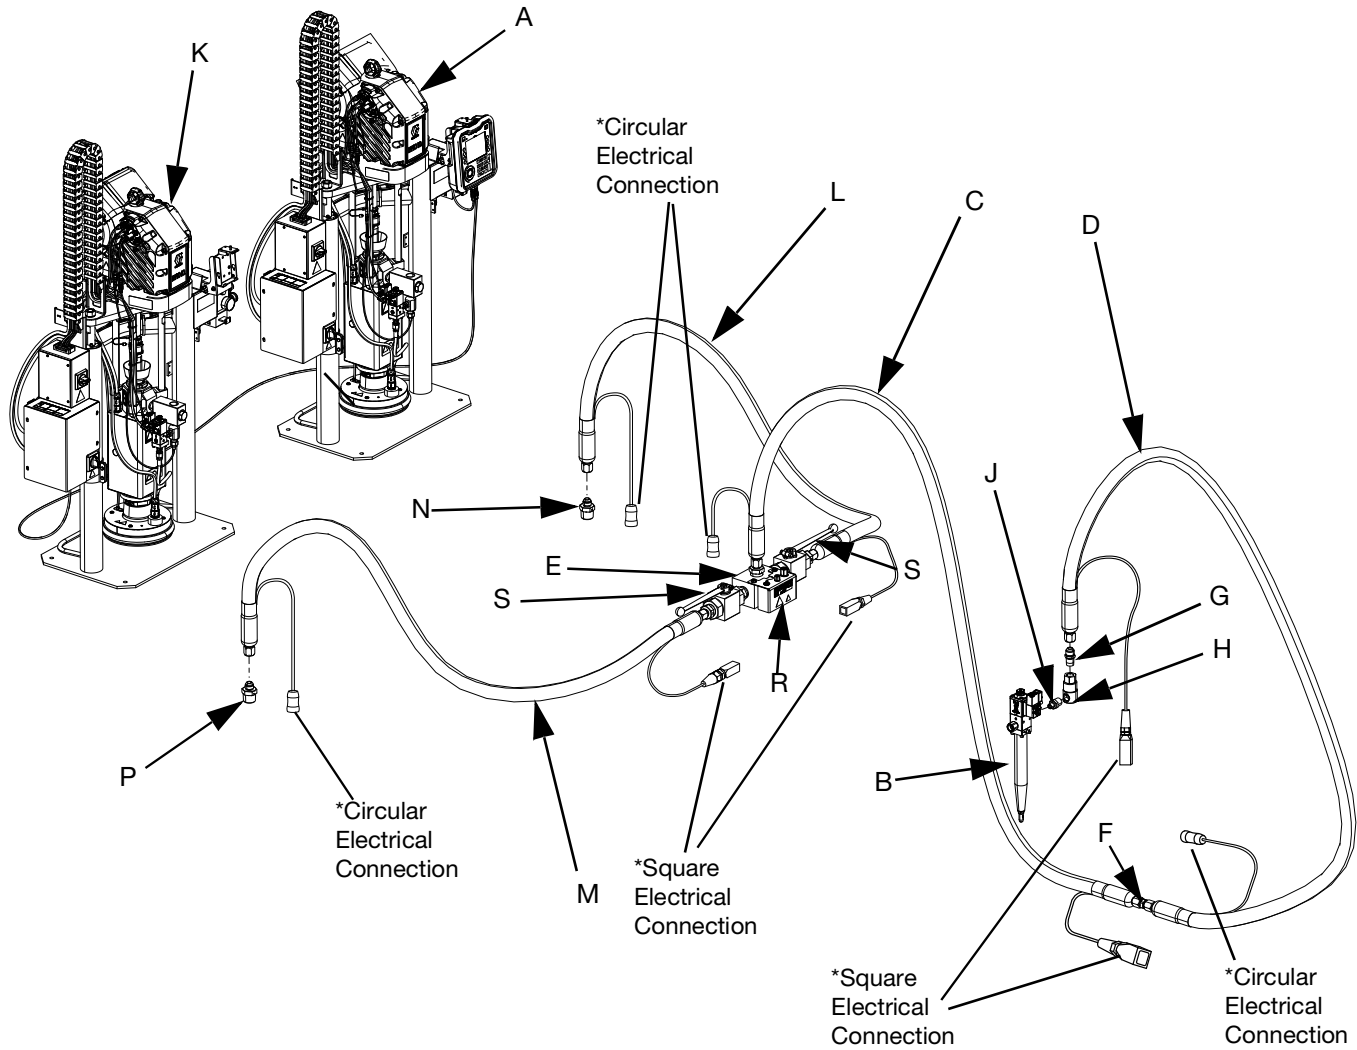

FIG. 2: Tandem E-Flo iQ Dispense System
NOTE: FIG. 2 shows a typical E-Flo iQ dispense system installation with a tandem iQ ram supply unit, hoses, connectors, and an iQ dispense valve. Some installations may not require Supply Hose 2 (D) to iQ Dispense Valve (B) depending on the needs of the system.